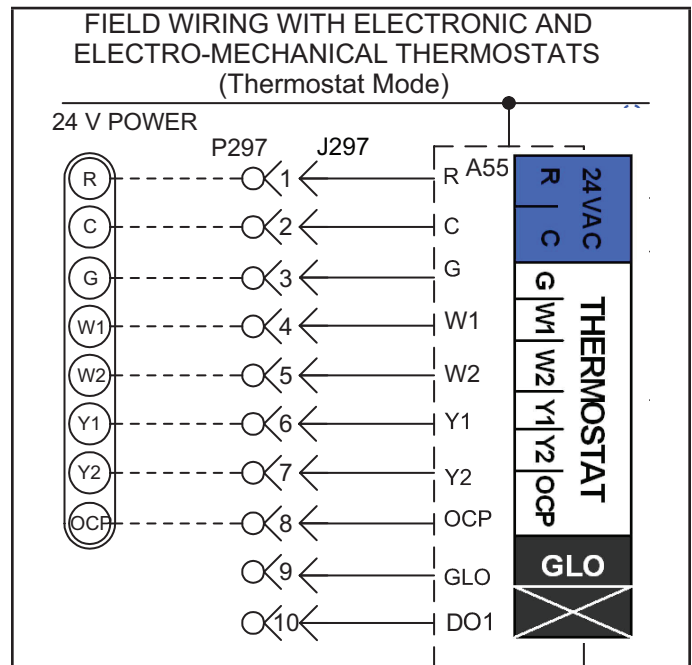
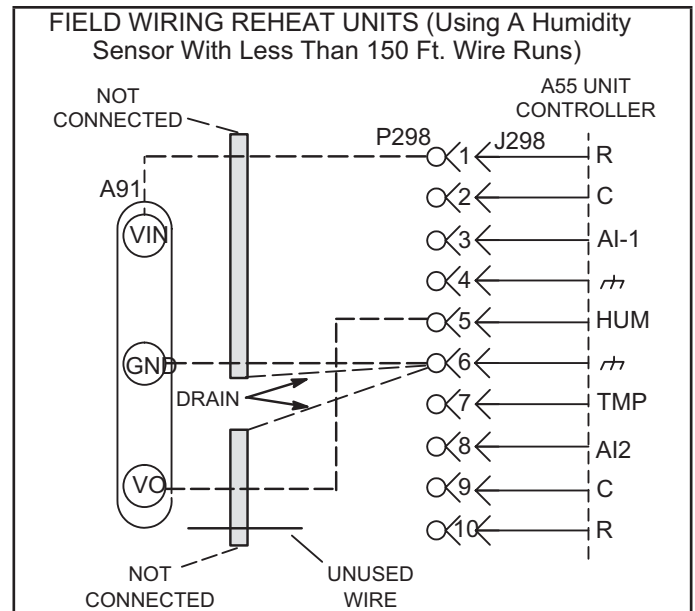
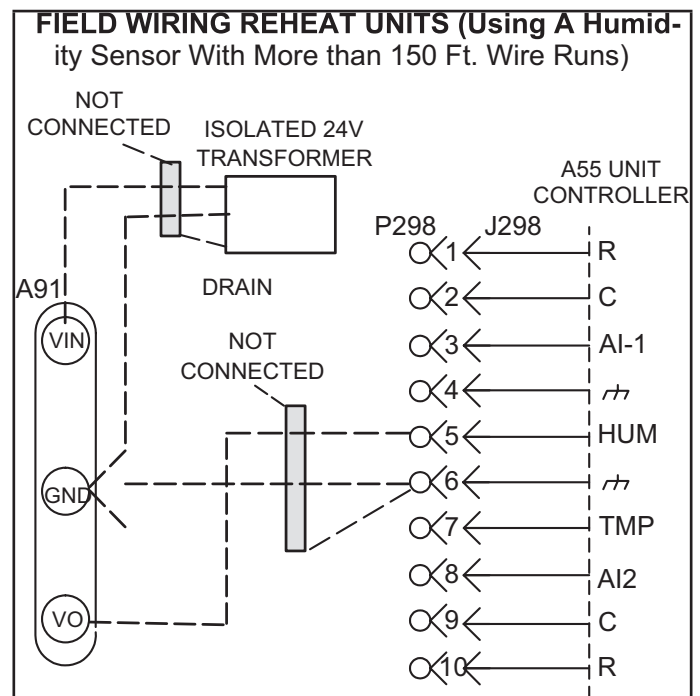
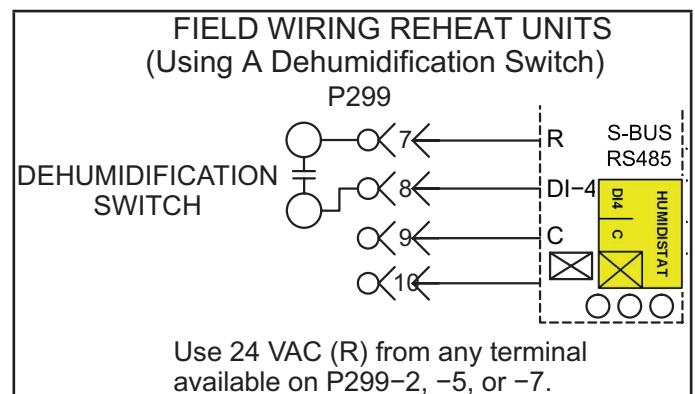

FIGURE 8
FIGURE 10
FIGURE 11
FIGURE 12
The Unit Controller will operate two stages of heating and cooling based on thermostat demands. Install thermostat assembly in accordance with instructions provided with thermostat. See FIGURE 8 for field wiring and and refer to wiring diagrams on unit.
- 2 - Make wiring connections as shown in FIGURE 8 for Thermostat Mode and figure 10 for Zone Sensor Mode. In addition, connect either a humidity sensor or a dehumidification input. See FIGURE 10 or FIGURE 11 for humidity sensor wiring and FIGURE 12 for dehumidification input wiring.
Use two separate shielded cables containing 20AWG minimum, twisted pair conductors with overall shield. Belden type 8762 or 88760 (plenum) or equivalent. Connect both cable shield drain wires to TB1-7 as shown in FIGURE 10.
Use two separate shielded cables containing 18AWG minimum, twisted pair conductors with overall shield. Belden type 8760 or 88760 (plenum) or equivalent. Connect both cable shield drain wires to TB1-7 as shown in FIGURE 10.
Use a local, isolated 24VAC transformer such as Lennox cat #18M13 (20VA minimum) to supply power to RH sensor as shown in FIGURE 11. Use two shielded cables containing 20AWG minimum, twisted pair conductors with overall shield. Belden type 8762 or 88760 (plenum) or equivalent.